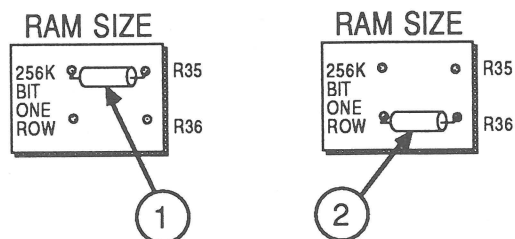

FIGURE 10
The standard 1-megabyte RAM configuration consists of four 256K SIMMs installed in both rows on the Macintosh SE logic board. The presence of resistor R35 (marked "256K BIT")—soldered to the logic board as shown in Figure 10, #1—tells your computer that 256K SIMMs are installed in both rows on the logic board. You will need to cut or remove resistor R35 to upgrade computer RAM; computers configured with 1 MB of RAM can be upgraded to 2.5 MB and 4 MB.
The standard 2 MB configuration has two 1 MB SIMMs installed in the first row (SIMM sockets 1 and 2) on the logic board. The presence of resistor 36 (marked "ONE ROW")—soldered to the logic board as shown in Figure 10, #2—tells your computer that only one row of 1 MB SIMMs is installed on the logic board. If you are adding a second row of SIMMs to the logic board, resistor R36 must be cut or removed.
- a) Locate resistor R35, marked "256K BIT" (Figure 10, #1). Using small diagonal cutters, clip the resistor off the board and discard it. (You do not need to desolder the leads from the board.)